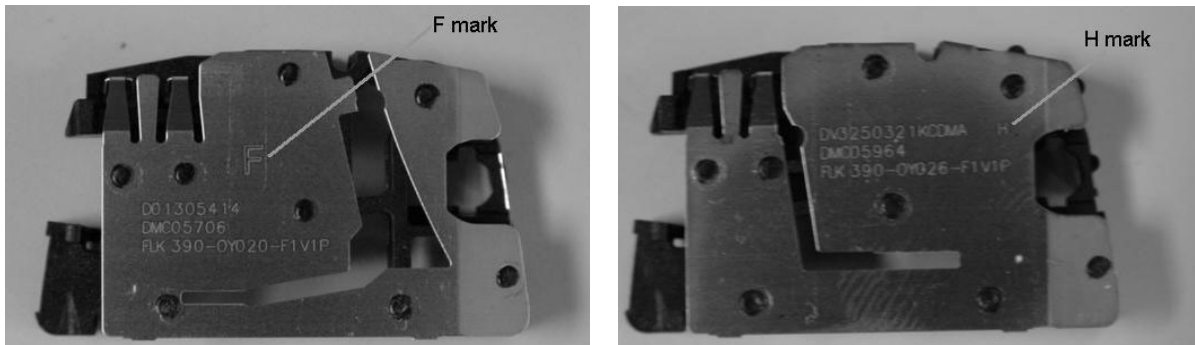

Figure 10: Top views of internal antenna (RH-3 at left; RH-17 at right)
Proper printing must be present. (See Figure 10).
- 3 RH-3/RH-3P and RH-17 antennas are marked on their radiators with "F" and "H" respectively. See Figure 10.